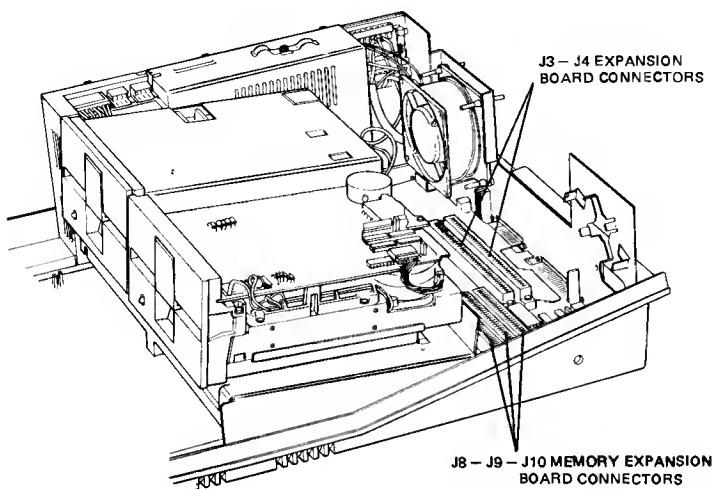

Fig. 5-4 Expansion Board Connector Positions
2 - Remove the memory expansion boards, if installed (see Figure 5-4).
- 2 - Remove the memory expansion boards, if installed (see Figure 5-4).
- 2 - Remove any memory expansion boards and option boards plugged into the motherboard (see Figure 5-4).